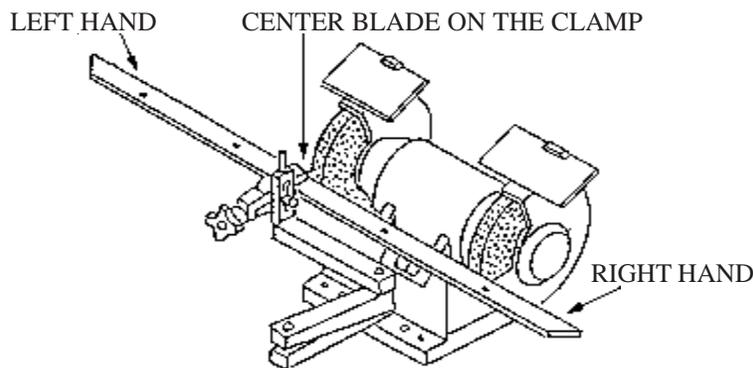

Fig. 4
4. Mount blade in clamp, centering blade allowing half the knife to extend out each side of clamp. (see figure 4)
5. Grasp blade firmly with one hand on each side of blade. (see figure 4) Turn on motor. Start at extreme left of blade, lightly traverse blade across wheel, working from left to right